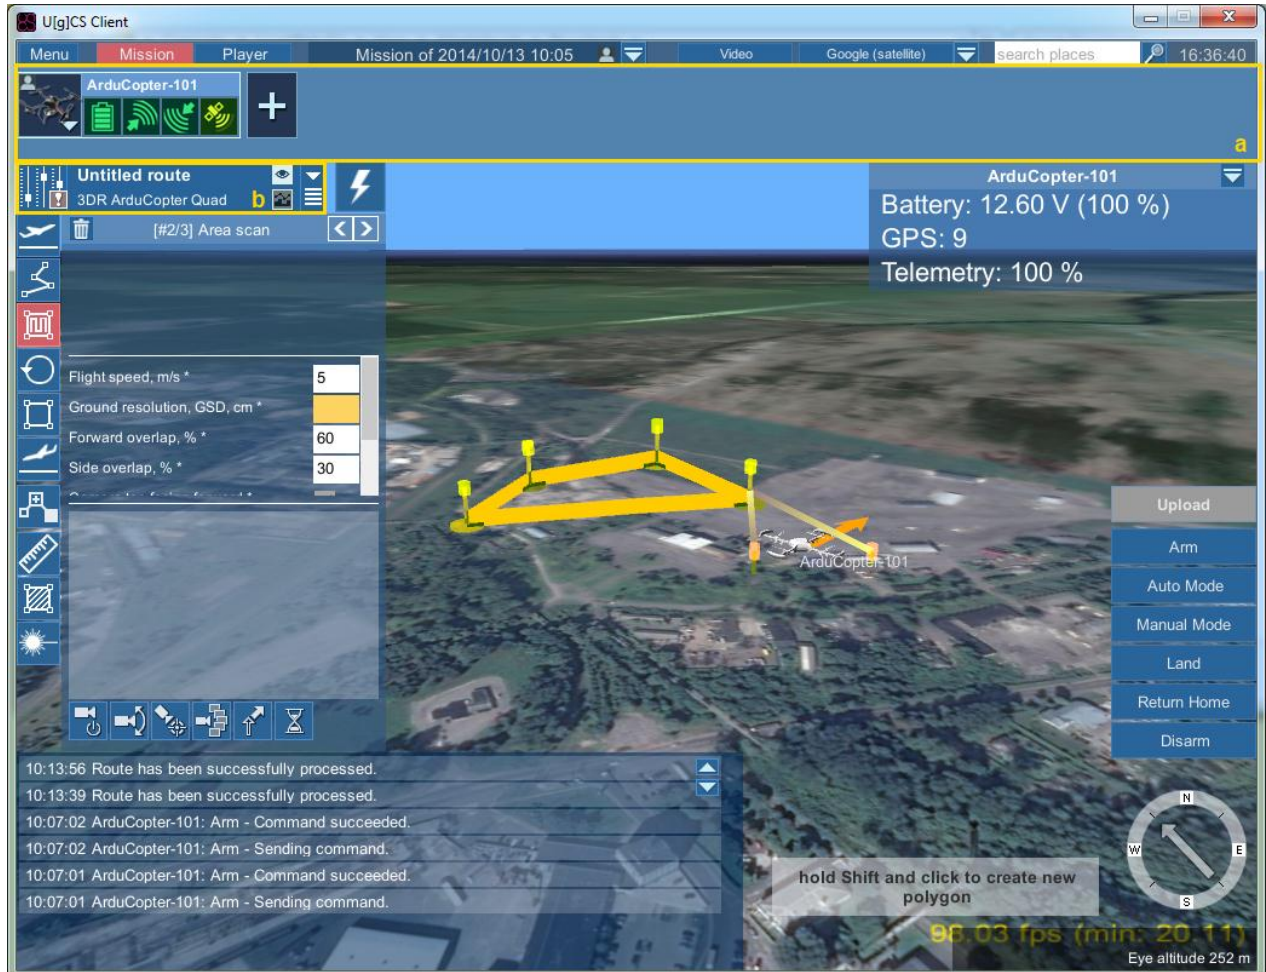

Figure 4. Mission workspace.
1. The vehicle list (Figure 4, a) contains a set of vehicles available for control;
2. The route list (Figure 4, b) contains a drop-down list with prepared routes.